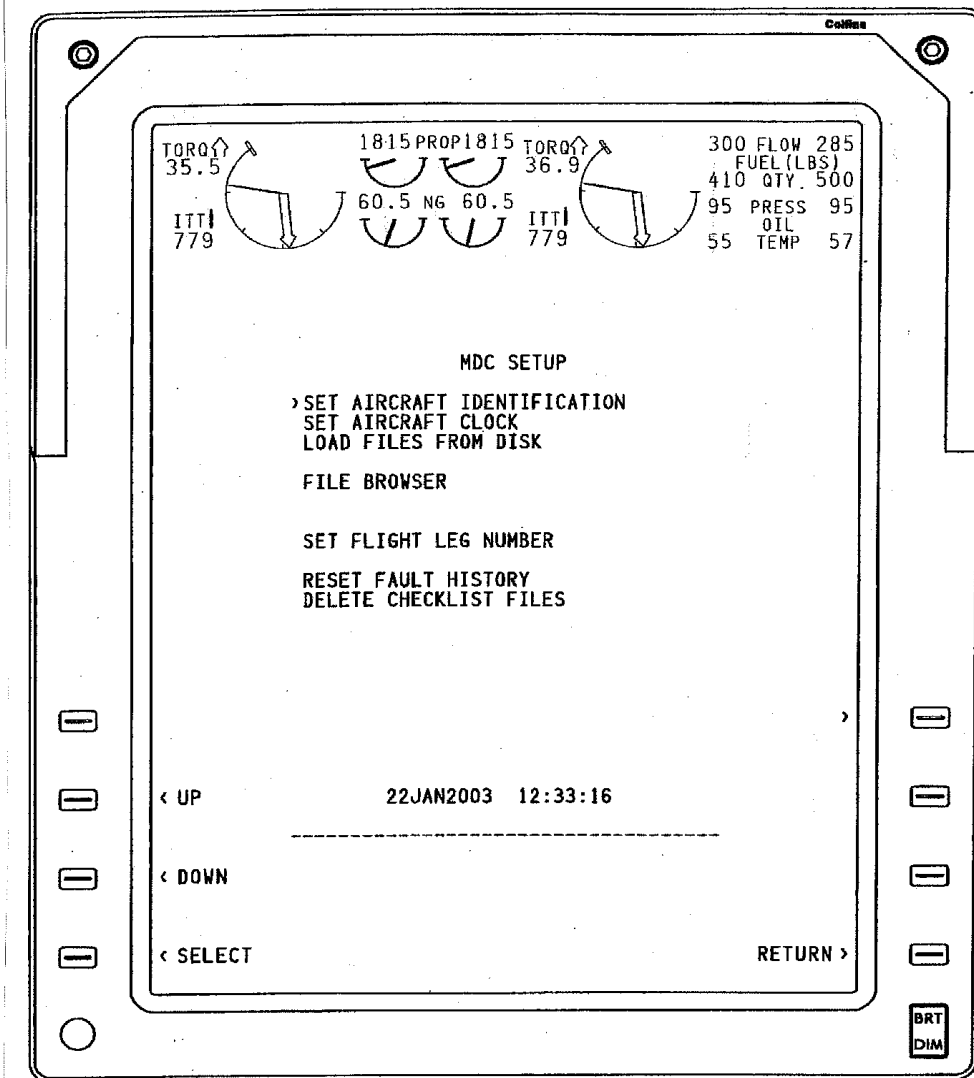
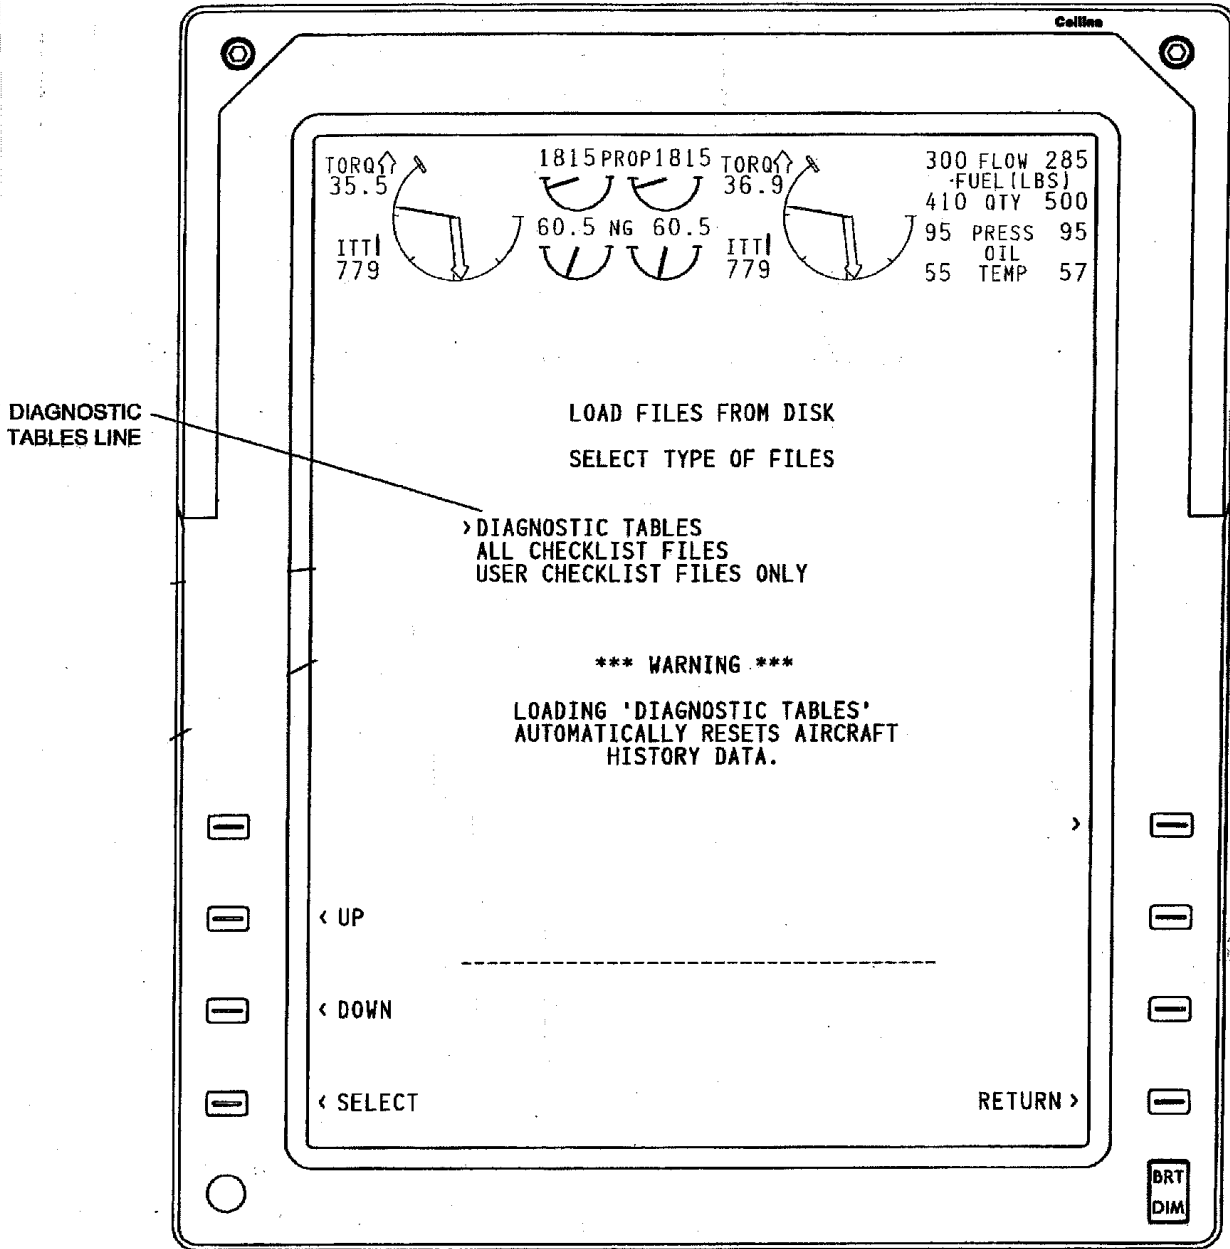

Fig. 201 - MDC Setup Page
Fig. 202 - Load File From Disk Page
- (1) On the Cursor Control Panel (CCP) push the STAT button to show the last displayed status page format.
- (2) If the last displayed status page format is not the MAINTENANCE MAIN MENU, push the MENU button on the CCP. When the STATUS MENU appears, turn the outer MENU ADV knob to highlight MAINTENANCE MAIN MENU.
- (3) Push the PUSH SELECT button to access the MAINTENANCE MAIN MENU page. The MAINTENANCE MAIN MENU page shows on the MFD.
- (4) Position the cursor on the MDC SETUP line using the UP or DOWN line select keys on the left side of the MFD.
- (5) Push the SELECT line select key to show the MDC SETUP page Figure 201.
- (6) Position the cursor on the LOAD FILES FROM DISK line using the UP or DOWN line select keys on the left side of the MFD.
- (7) Push the SELECT line select key to show the LOAD FILES FROM DISK page Figure 202.
- (8) Position the cursor on the DIAGNOSTIC TABLES line using the UP or DOWN line select keys on the left side of the MFD.
- (9) Insert the disk containing the Diagnostic Tables into the DBU
- (10) Push the SELECT line select key to show the DIAGNOSTIC TABLES.
- (11) If any faults are stored in the MDC's Fault History memory, the MDC will display an ALERT PAGE notifying the user that all Fault History will be deleted by loading new diagnostic tables.
- (12) To continue loading the diagnostic tables, select Continue on this page.